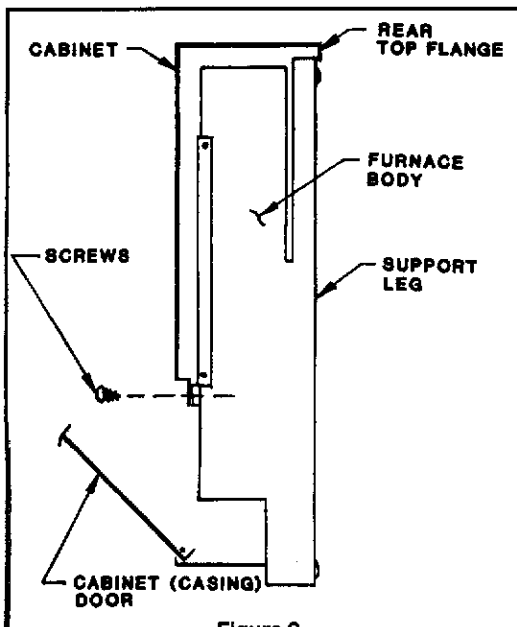

Figure 9
Set cabinet over furnace body, dropping rear top flange between support legs and wall. Open cabinet door and attach cabinet to inner casing with two (2) sheet metal screws (Figure 9).